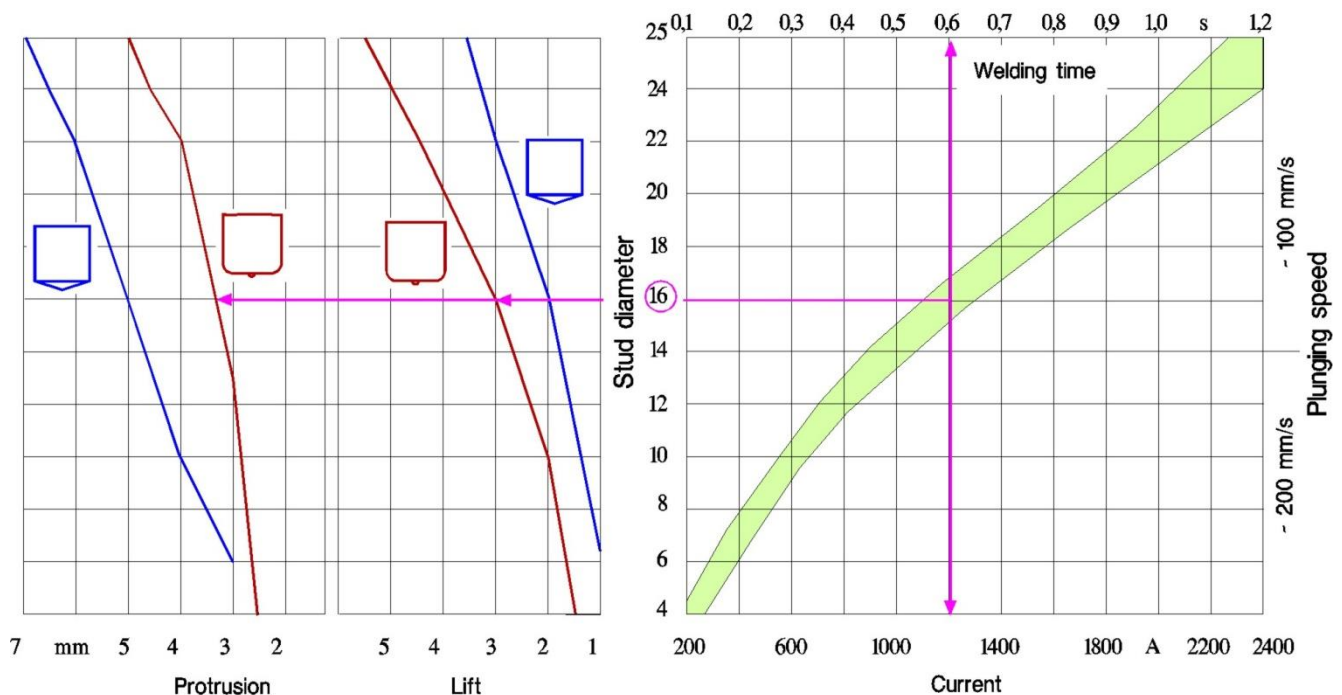

Figure 3: Parameters for current, time, lift, protrusion and damping (example for stud 16 mm diameter with flat tip)
7. Move the footpiece until the stud is centrally seated in the bore of the ceramic ferrule grip or the supporting tube (see figure 3).Then tighten the counter-sink screws of the footplate.